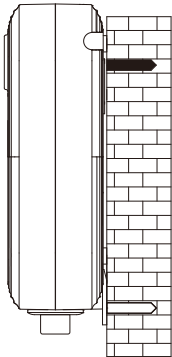
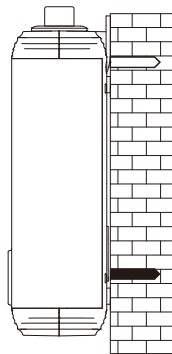

Figure 7
Figure 8
Step 4: Secure the appliance to the wall using the fixed nail (**Figure 7**)(**Figure 8**).